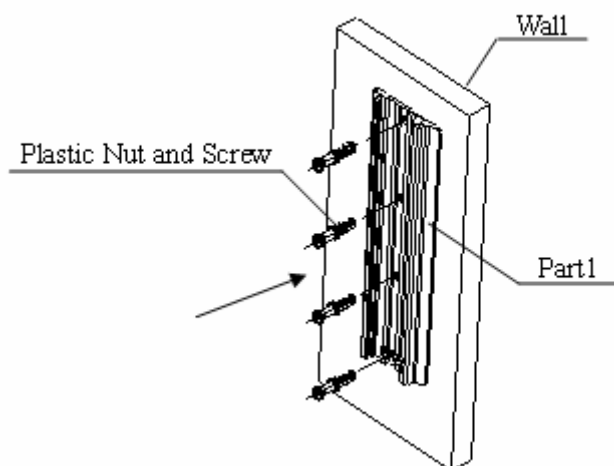

Figure2-1
3. Knock 4 screws in the plastic nuts, when tightened, secure the channel (part1) at the desired location of the wall (as shown in Figure 2-1).